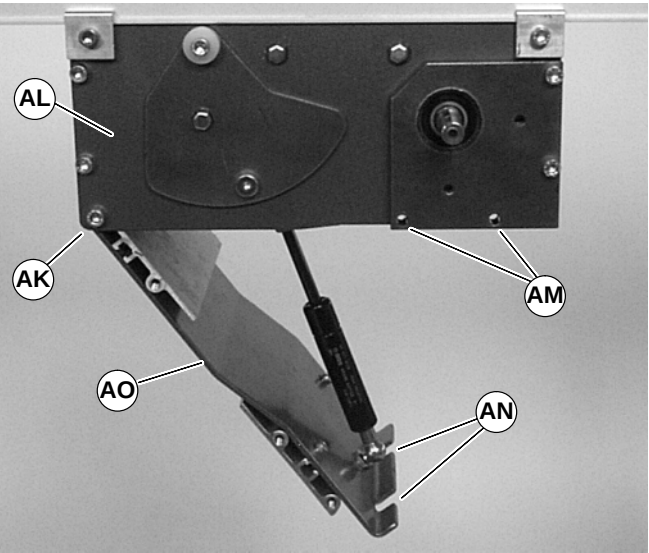

Figure 19
4. Loosen corner screws (AK of Figure 19), on each side of the drive module (AL).